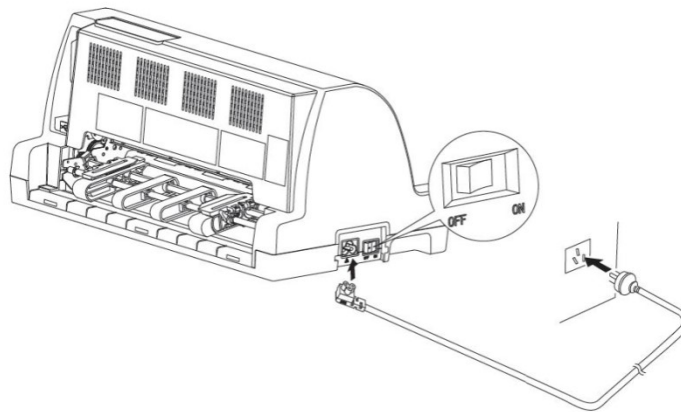

Fig. 1-13
- 1) Plug one end of the power cord into the printer and other end to grounded outlet as Fig. 1-13.